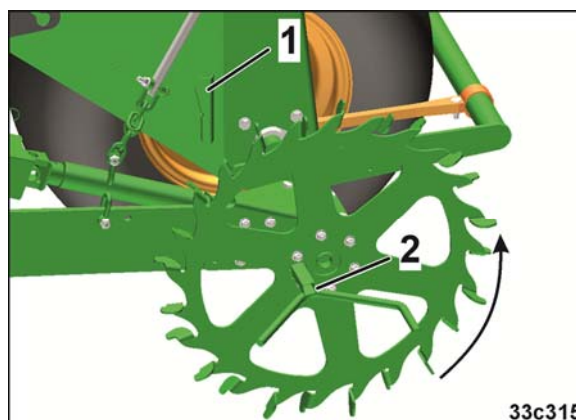

Fig. 73
- o With mechanical drive, turn the star wheel to the left with the calibration crank (Fig. 73/2), like for the calibration test.